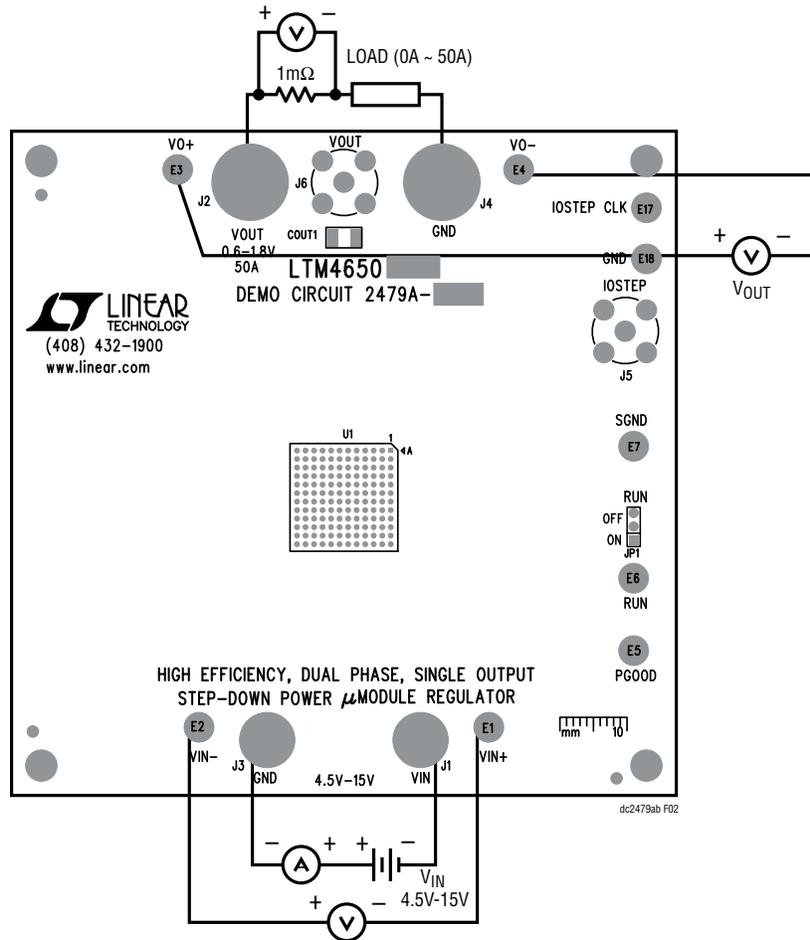

Figure 2. Test Setup of DC2479A-B
1. With power off, connect the input power supply, load and meters as shown in Figure 2. Preset the load to 0A and V_{IN} supply to 12V.